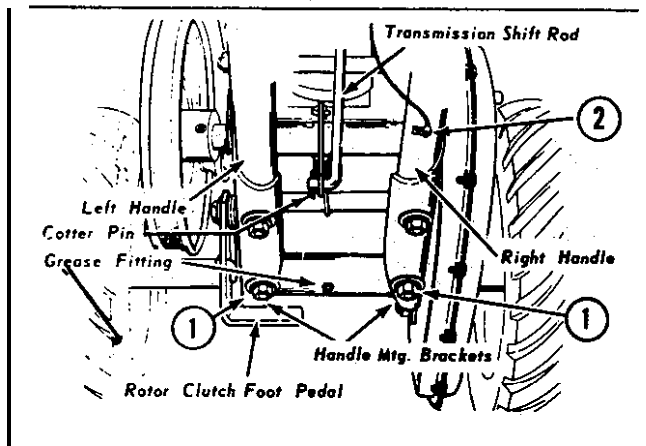

Figure 1.
1. Fasten the handle assembly to the mounting brackets as shown at (1), Figure 1, using the (4) 3/8-16 x 2" capscrews, 3/8" plain washers, 3/8" lockwashers and 3/8" hex nuts.
2. The throttle cable assembly is coiled around the engine for shipping purposes. Uncoil the cable and attach to the housing assembly using the (2) 32" x 1/2 self-tapping screws. The cable is held in place by the clamp on the lower portion of the right handle as shown at (2), Figure 1.
3. Insert the lower end of transmission shift rod through the hole in the shift lever and fasten in place with a cotter pin as shown in Figure 1.